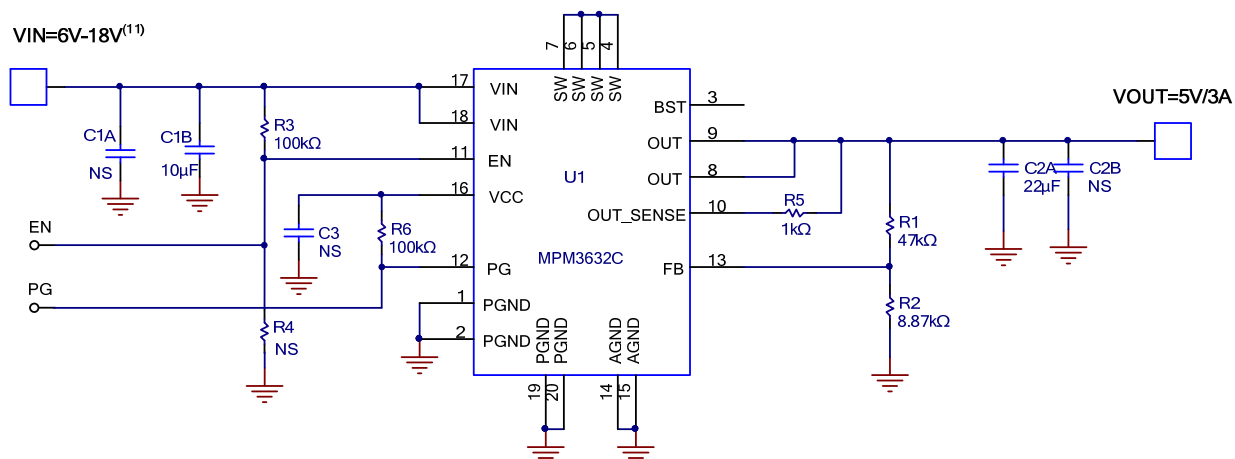
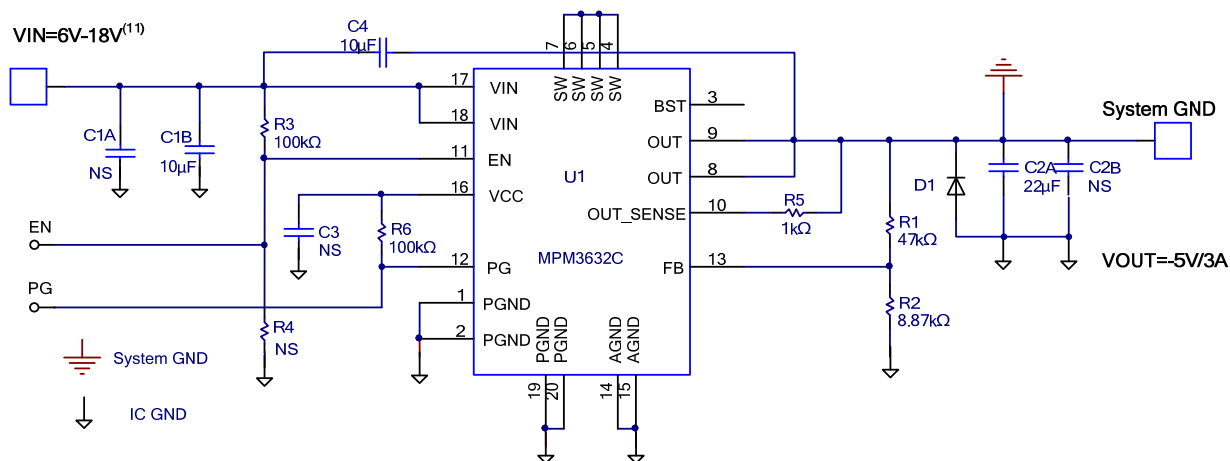

Figure 8: 5V Output
Figure 15: -5V Output
- 10) The recommended layout is based on Figure 8 through Figure 15.